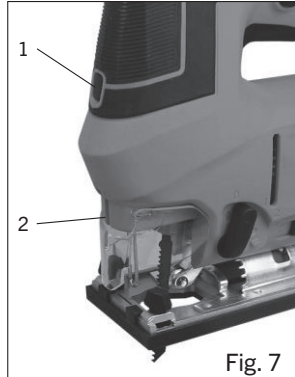

Fig. 7
The laser / LED work-light switch (1) is located in the front of the saw housing (Fig. 7). This 4-position switch turns the laser and LED work-light (2) ON and OFF. The following chart indicates the status of each component.